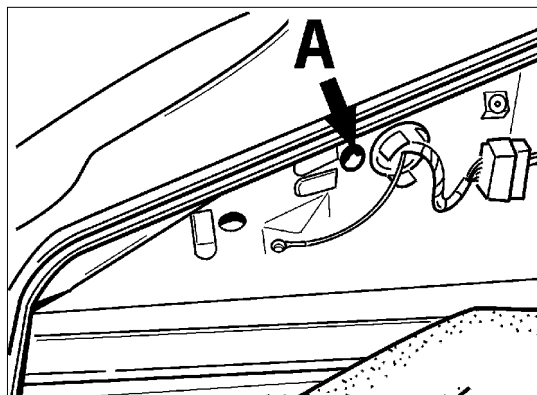

Figure 2
- 1.5** Check for a plug on the left and right wall of the luggage compartment, near the headlight adjusters. (Figure 2 and 3, Item A)
1.6 Remove plugs (Figure 2 and 3, Item A).